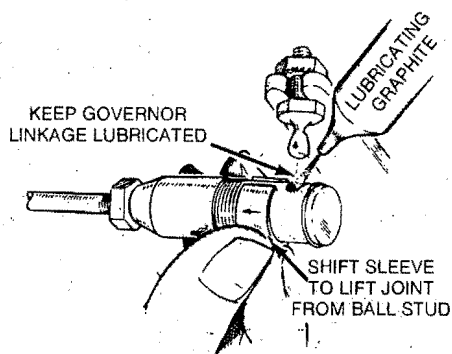

FIGURE 21. GOVERNOR CONTROL LINKAGE
10. **Governor control linkage** — Keep the linkage lubricated every 100 hours (see Figure 21).